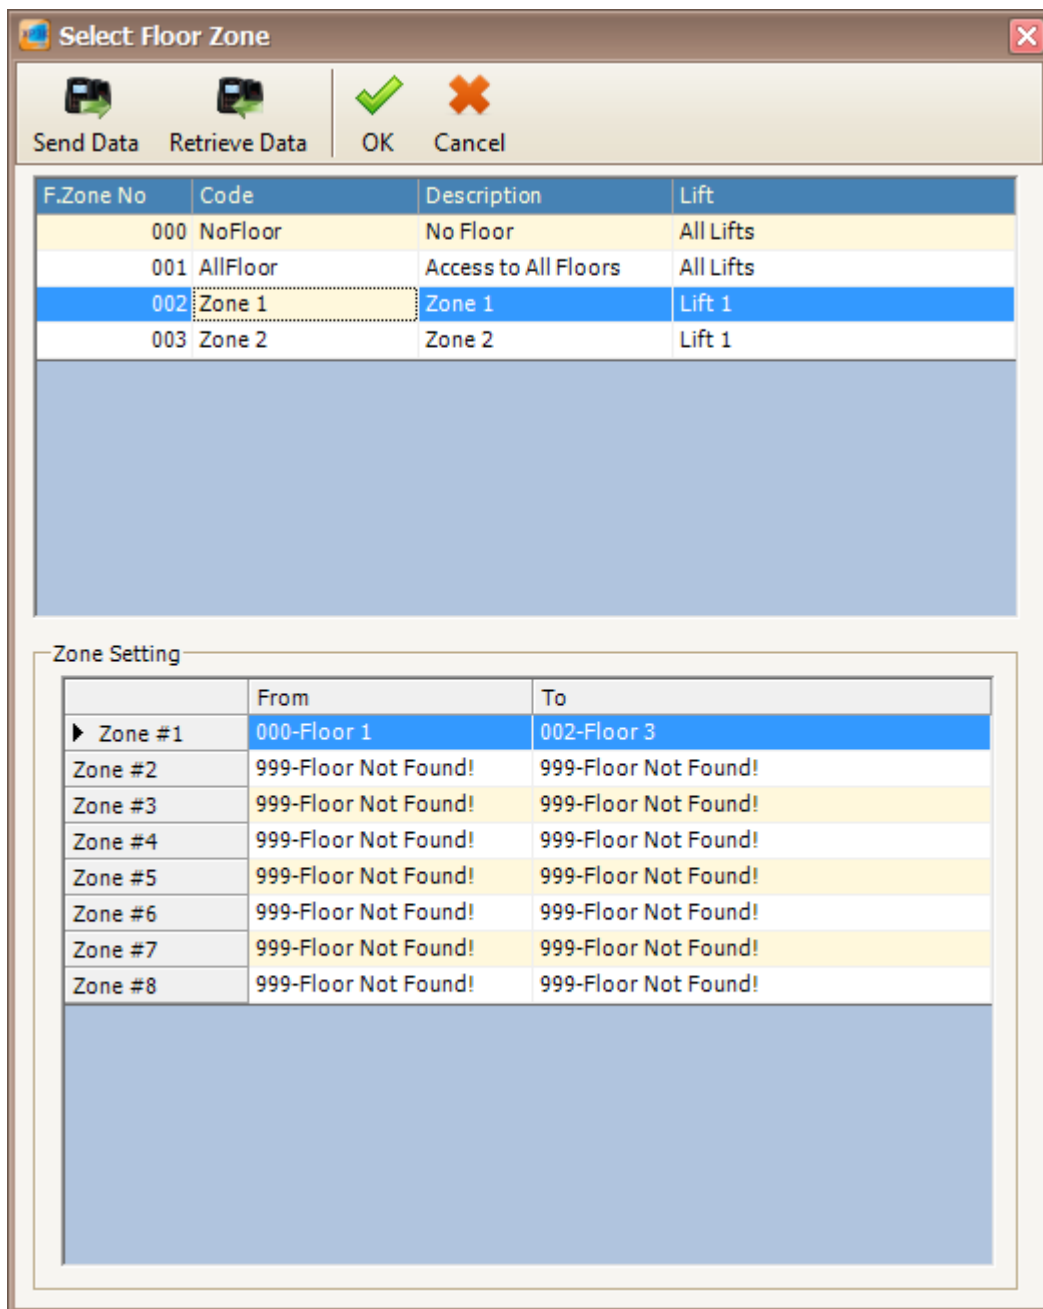

Figure 193 - Select Floor Zone
- To change the floor zone for the floor access, click on the floor zone to open Select Floor Zone window. Choose the floor zone that you want (Refer **Figure 193**). Click Ok to save the settings.